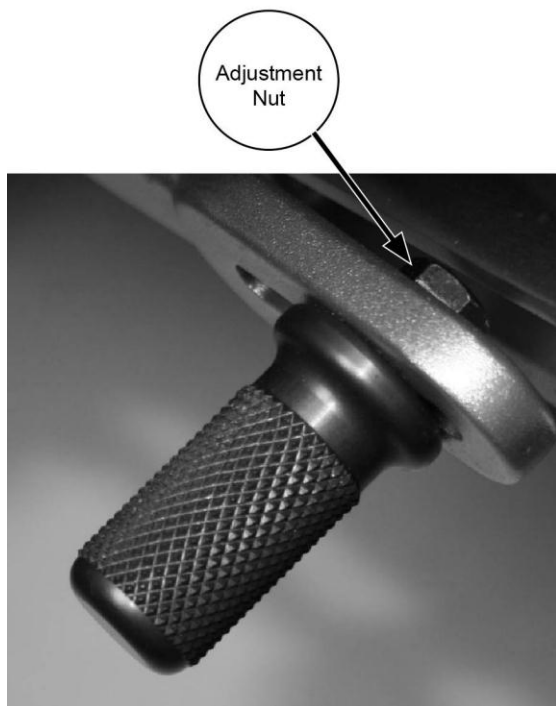

Figure 13. Toe Peg Adjustment.
1. See Figure 13. Loosen the fastener from the toe peg.